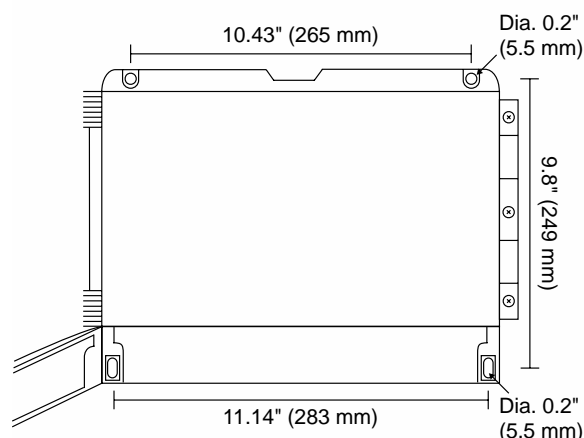

Figure 2. Controller Mounting Holes Dimensions
- Select the appropriate mounting screws for the mounting surface to be used. The mounting holes diameter is shown on *Figure 2*.